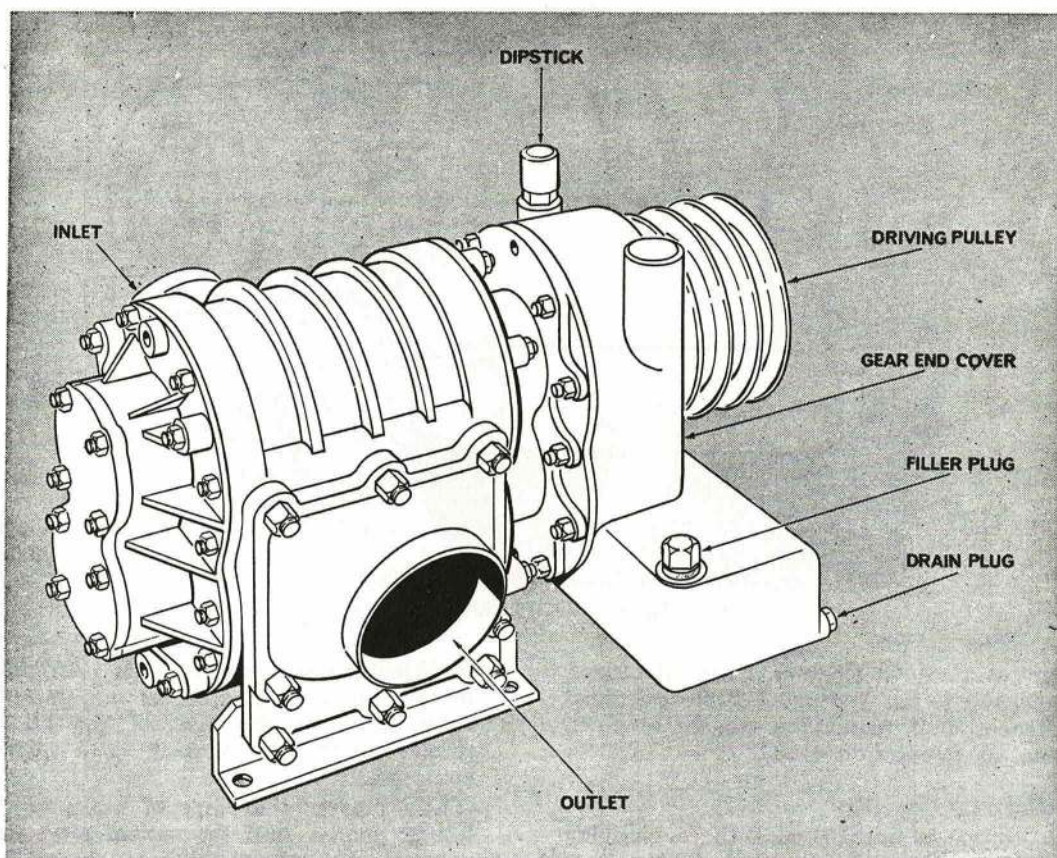

Fig. 5. GODFREY AIR BLOWER
25. The Godfrey type K.200 air blower (Fig. 5) is similar to a supercharger. It is mounted on a platform in the centre of the